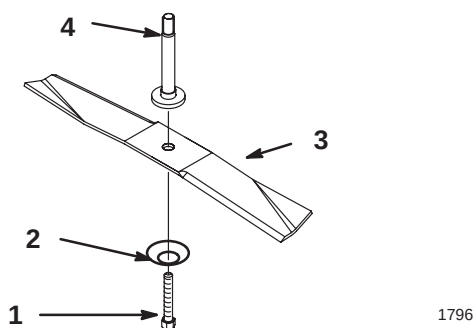

Figure 27
1. Install the blade, curved washer, and blade bolt (Fig. 27).